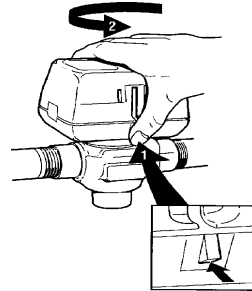

Fig. 5 - Latch Mechanism to detach Actuator
1. The actuator head is automatically latched to the valve. Align the coupling hole in the bottom of the actuator with the valve stem. Press the actuator down towards the body with moderate hand force and turn the actuator counter-clockwise by 1/8 turn (45 degrees) to line up the actuator with the piping. The latch will click when engaged. See Figure 5.
4. The actuator head is automatically latched to the valve. To remove, press up on the latch mechanism with your thumb. It is located directly below the white manual open lever (see figure 5 below). Simultaneously press the actuator down towards the body with moderate hand force and turn the actuator counter-clockwise by 1/8 turn (45 degrees). Lift the actuator off the valve body.
5. Install the new actuator by reversing the process in (4).